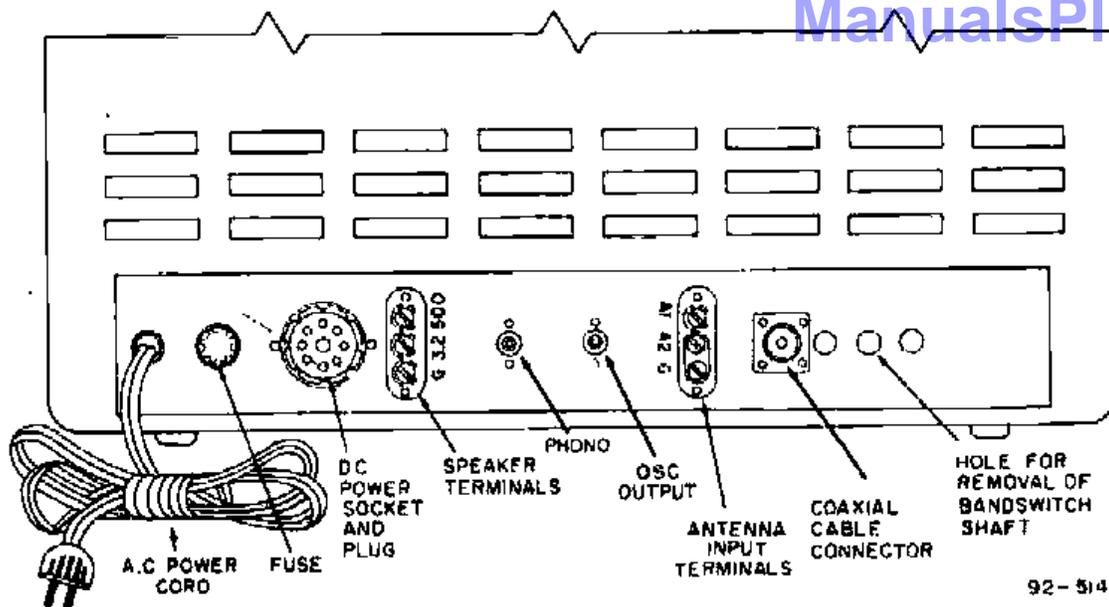

Figure 5. Rear View of Receiver
The receiver is designed to operate directly on 105 to 125 volt, 50-60 cycle AC current. Provision has also been made in the receiver for operation from an external DC power source for portable or emergency service in areas where AC power is not available. Connections to the DC source are made through the DC POWER SOCKET at the rear of the receiver. (See Fig. 5.)
**IMPORTANT:** The receiver will not operate from an AC source unless the JUMPER PLUG is inserted in the DC POWER SOCKET. (See Fig. 5.)
A three-terminal strip, marked "G", "3.2" and "500", is provided at the rear of the receiver for connecting the external speaker that is required with the receiver. (See Fig. 5.) Any permanent magnet speaker with a 3.2-ohm voice coil can be used by simply connecting the two leads from the speaker voice coil to the terminals marked "3.2" and "G". If it is desired to use a speaker with a voice coil impedance other than 3.2 ohms, a matching transformer should be employed to insure optimum performance. The transformer should be mounted on or near the speaker, and should have a 5-watt power rating, a 500-ohm primary impedance, and a secondary impedance to match the impedance of the speaker voice coil. Connect the primary of the transformer to the terminals marked "500" and "G" and the secondary to the speaker voice coil terminals.
4 of the JUMPER PLUG located in the DC POWER SOCKET at the rear of the receiver. (See Figs. 5 and 7.) To operate the receiver with the remote switch, the RECEIVE-STANDBY switch on the front panel must be left at "STANDBY".